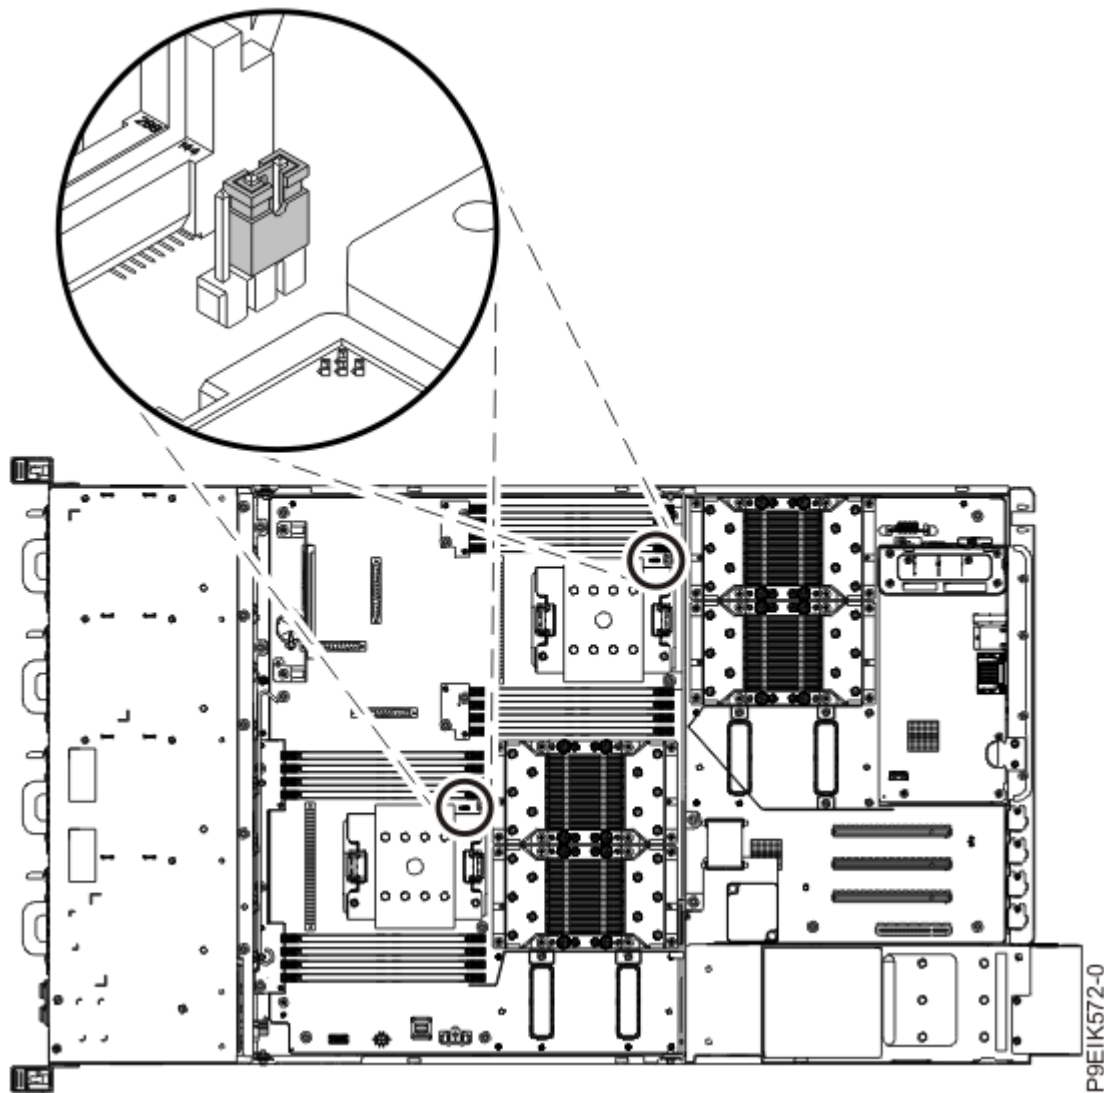

Figure 58. System processor jumper positions
5. Install the system processor jumpers on the system backplane as shown in Figure 58 on page 109.